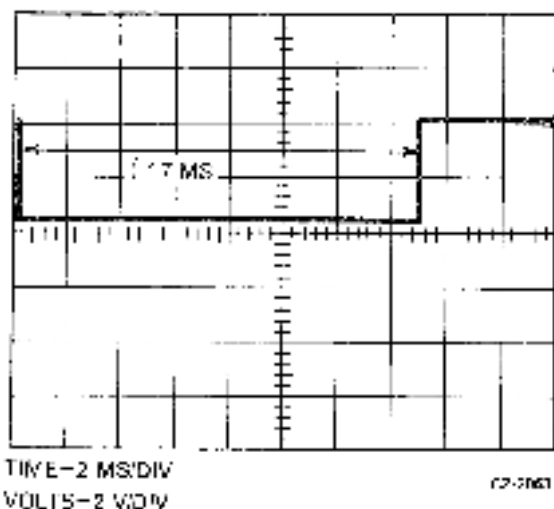

Figure 9-12 Access Time Check (One Track Seek)
8. Observe the waveform depicted in Figure 9-12.